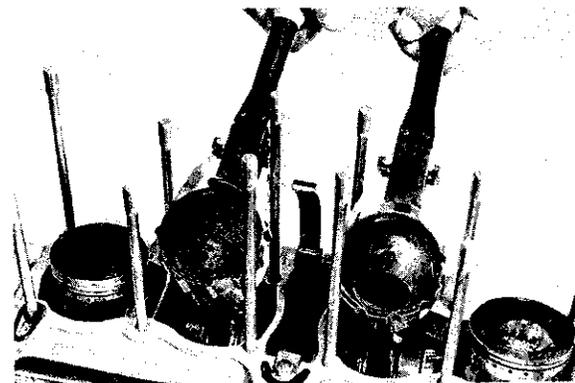

Fig. 7-85.
- Set the ring gaps as shown in Fig. 7-85 on No. 2 and No. 3 pistons, and then install piston ring compressor (special tool) in the manner indicated. Some light resistance must be overcome to lower the cylinder block.